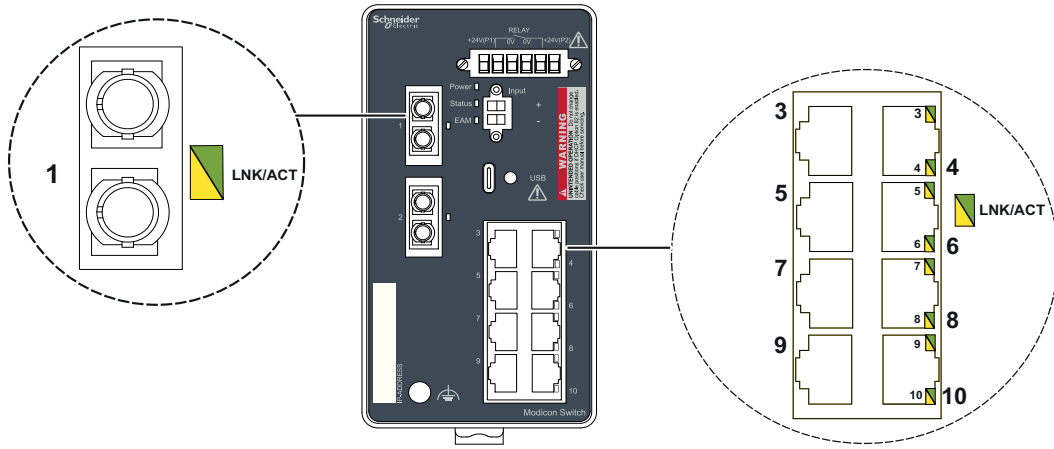
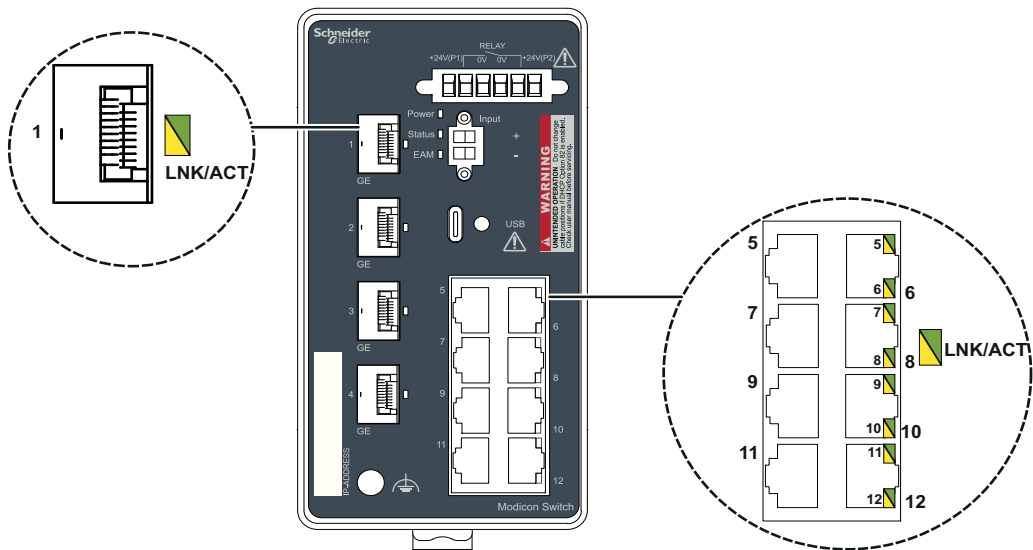

Figure 3: LED display elements for device variants with DSC and 8 × RJ45 sockets
Figure 4: LED display elements for device variants with SFP slots and 8 × RJ45 sockets
- ▶ For device variants with 8 × RJ45 sockets: The LEDs are located on the right side of the device. See figure 3 on page 29. See figure 4 on page 29.
- ▶ For device variants with ports that are DSC sockets and SFP slots: The LEDs are directly located at the ports. See figure 3 on page 29. See figure 4 on page 29.